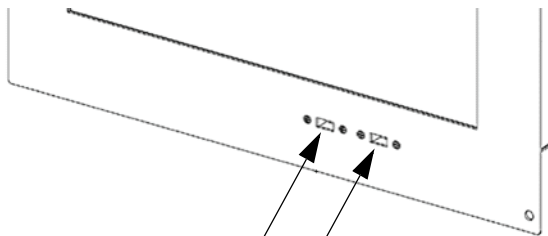

Figure 3.1 FIRSTVISION USB Keyboard and Mouse Connections
- USB ports on the front of FIRSTVISION LCD (recommended). A keyboard with a USB port (for the mouse) is ideal for connecting to FIRSTVISION (Figure 3.1).